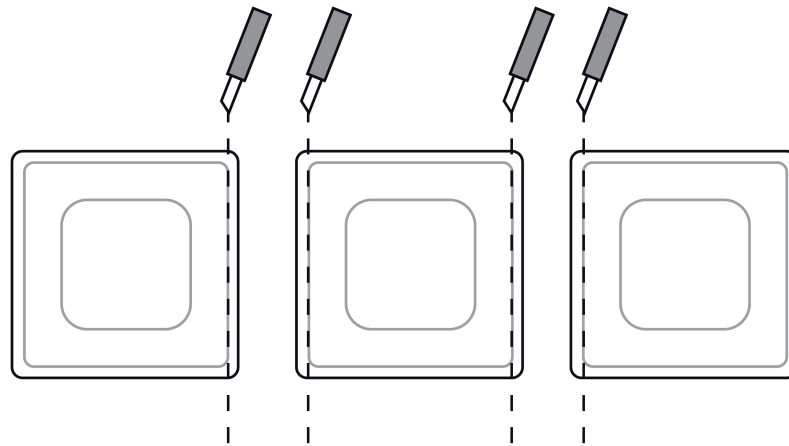

Figure 3: Cutting the adhesive pads for multiple combinations
- i** In the case of multiple combinations, the abutting sides of the adhesive pads must be cut along the external punching using a ruler and a cutter (figure 3).